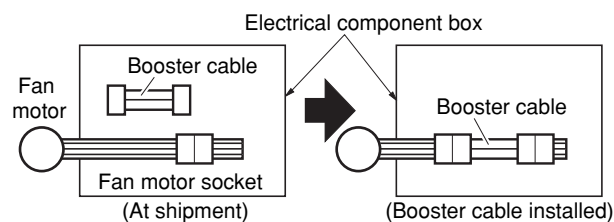

Fig. 3-69
- (1) Remove 4 screws on the electrical component box and remove the cover plate.
- (2) Disconnect the fan motor sockets in the box.
- (3) Take out the booster cable (sockets at both ends) clamped in the box.
- (4) Securely connect the booster cable sockets between the disconnected fan motor sockets in step 2 as shown in the Fig. 3-69.
- (5) Place the cable neatly in the box and reinstall the cover plate.